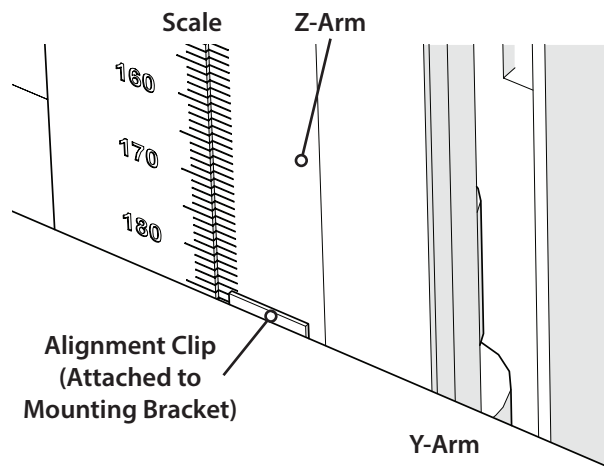

Figure 28: Close-Up of Z-Arm Scale
5. Remove the adjustment tool and then nudge the Z-arm up to 187 mm. Use the scale on the Z-arm to confirm your adjustment. The top of the alignment clip, attached to the mounting bracket, should be flush with the correct line on the scale. Refer to Figure 28.